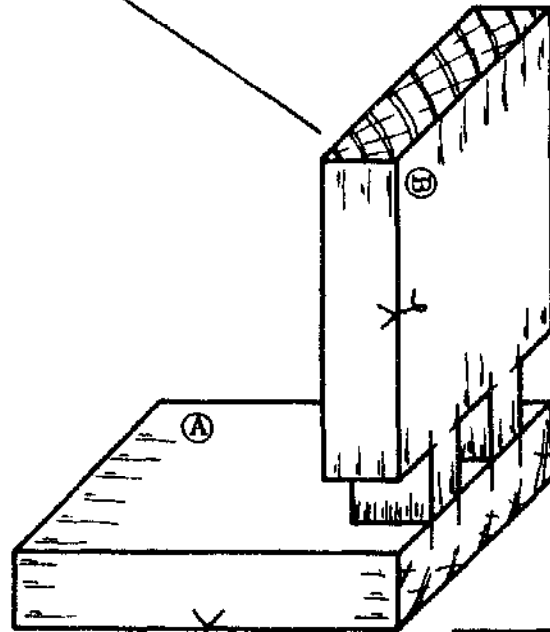

Fig. 9
- Place piece B (with the tenons) over the end of piece A, with the face side towards the outside as indicated in Fig. 9.
- Mark the shape of the tenons onto piece A with a pencil (Fig. 9).